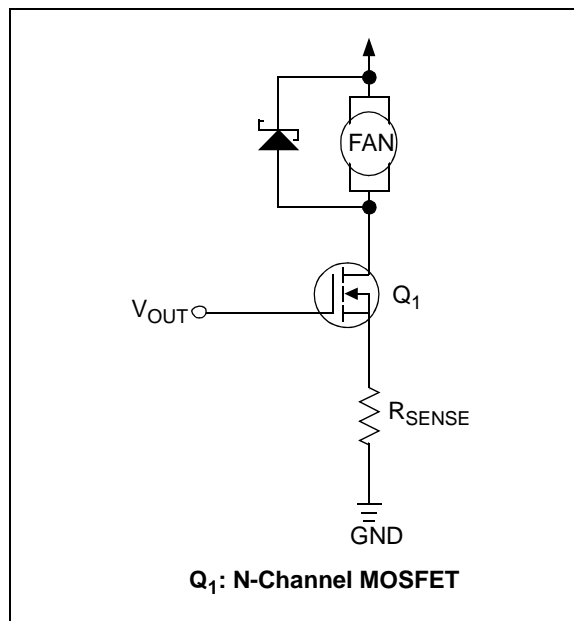

FIGURE 5-6: Clamp Diode For Fan Turn-Off.
- Ask how the fan is designed. If the fan has clamp diodes internally, this problem will not be seen. If the fan does not have internal clamp diodes, it is a good idea to install one externally (Figure 5-6). Putting a resistor between V_{OUT} and the gate of the MOSFET will also help slow down the turn-off and limit this condition.